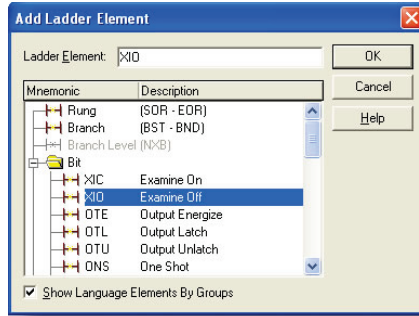

Figure 68: Adding an XIO Element
- c) Select the "XIO" element in the Bit folder. Refer to Figure 68.